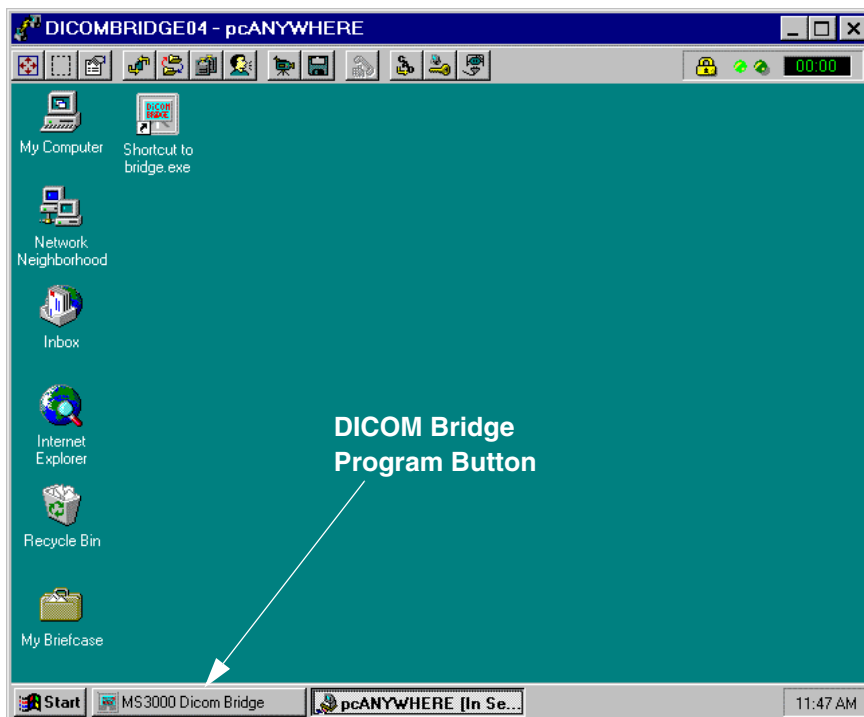

Fig. 3
- In the pcAnywhere program, click on the "MS3000 DICOM Bridge" button in the DICOM window and terminate the program (see Fig. 3)